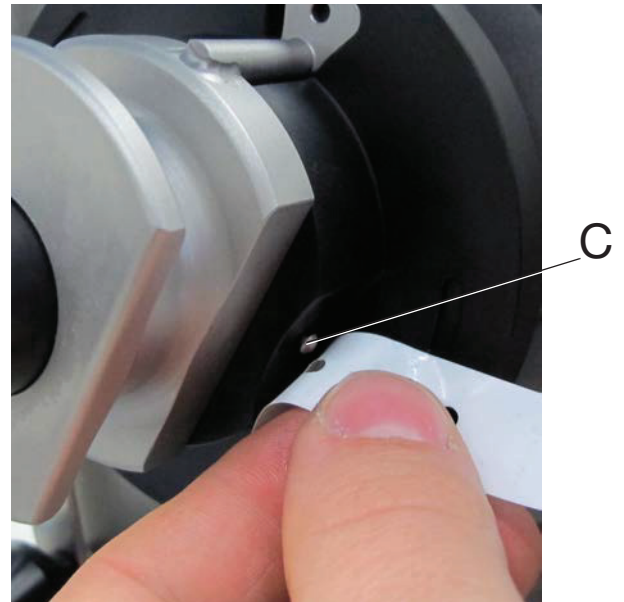

Fig. 5-16 C Carrier pin
- Guide the loop tape around the outside of the guide pulley (9).
- Place loop tape on the carrier pin (C, Fig. 5-16) of the residual tape winder (10).